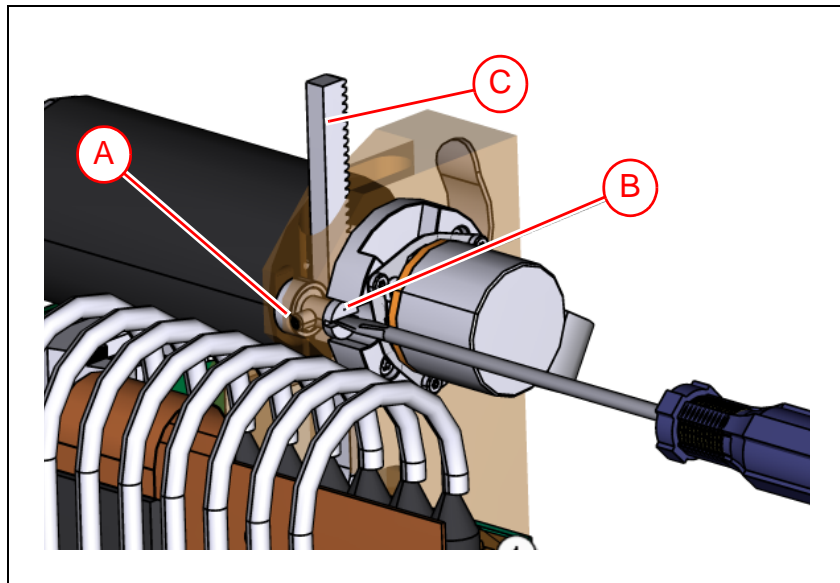

Figure 6-18. HZ Cog play adjustment.
2. Loosen the locking screw ('A' in Figure 6-18).